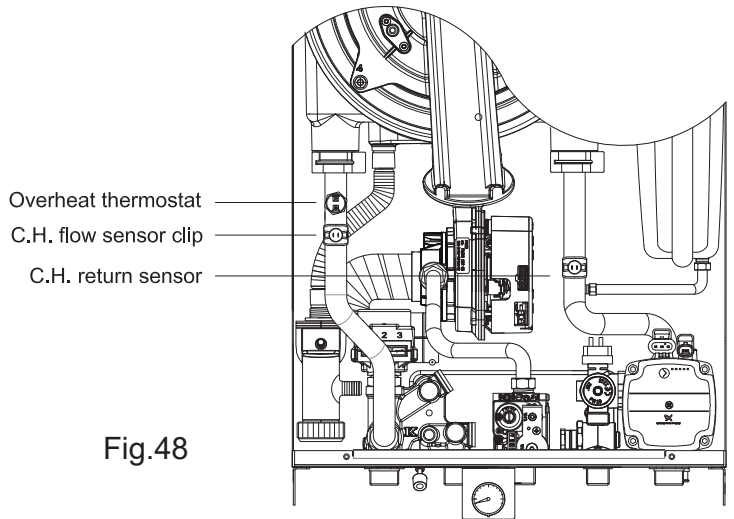

Fig.48
**8.19 TO REMOVE/REPLACE C.H. FLOW AND RETURN SENSORS (Fig. 48)**